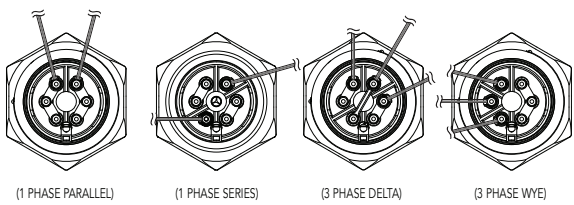

Figure 4. Immersion element configurations.
1. Remove element enclosure cover. Note your heater's element configuration. See Fig 4 on following page.